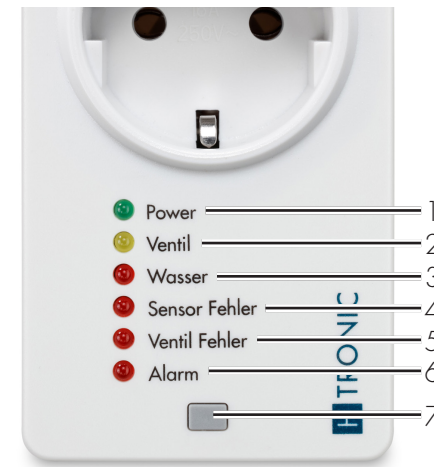

Figure 5 Display of the water protection switch
3. Push the button on the water protection switch (item 7, Figure 5).
- ▶ The "Valve" LED lights up (item 2, Figure 5).
2. Push the button (item 7, Figure 5).